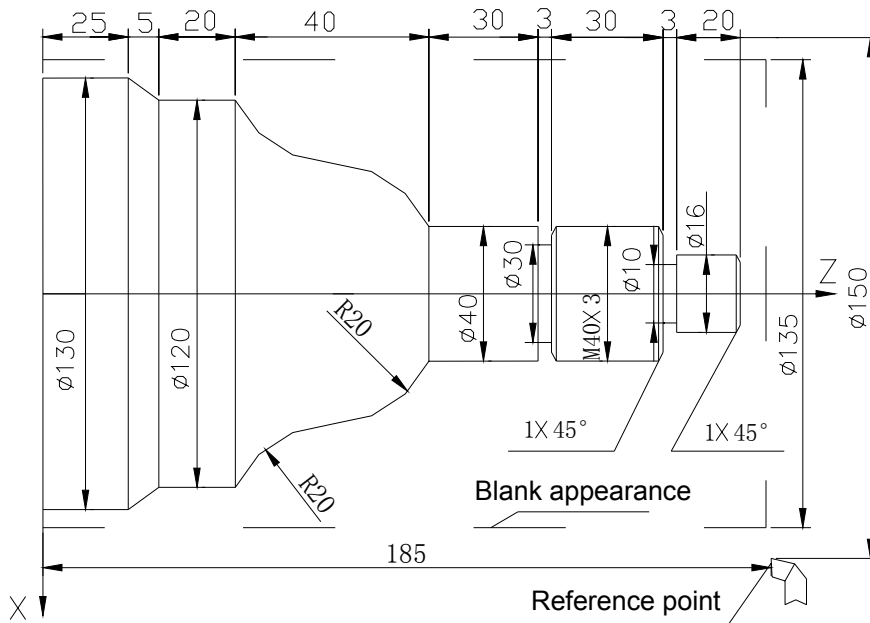

Fig. 5-5 Machining example
**Example 4:** Compound machining as Fig. 5-5(G71, G92).